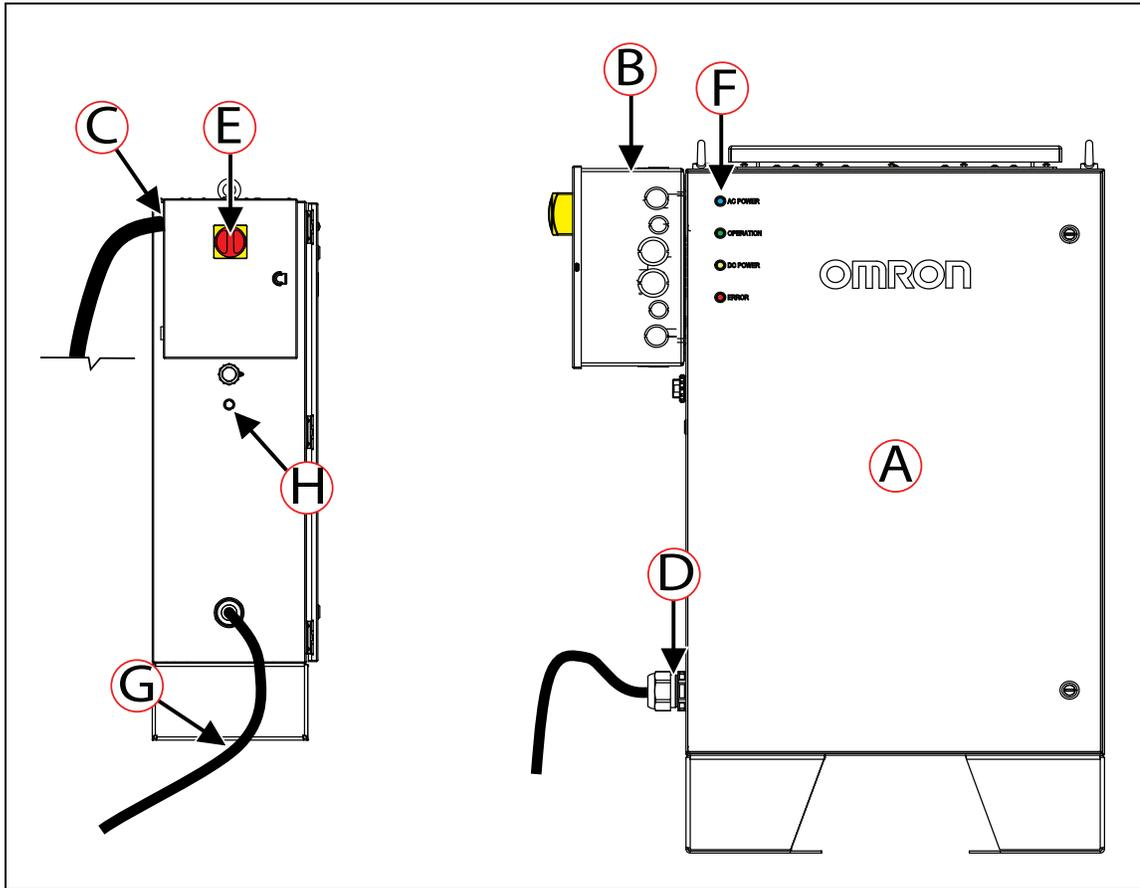

Figure 3-67. Power Supply Box - Features and Parts
- The facility power cable ((C) in Figure 3-67. must be secured to the Figure 3-67.
There are four LED indicators on the power supply box, as displayed in Figure 3-67. For information on the power supply box LED indicators, see: Indicators, Controls, and Connections on page 189.
The power supply box can be mounted directly to the floor, or to the wall using user-supplied screws. For dimensions of the available mounting holes, refer to Figure 3-67. OMRON recommends using screws that are suitable for the substrate (wood, concrete, etc.).
The power supply box is a permanently connected equipment, and therefore, the user must supply the power cord transferring power from the facility into to the electrician access box. The user must punch a hole through the back of the electrician access box (location (C) in Figure 3-67.), and install the user-supplied strain relief for the power cord. The strain relief attaching to the electrician access box is a user-supplied part, and shall be sized appropriately for the user-supplied power cord.
As displayed in Figure 3-67. the main disconnect switch is located on the electrician access box, and controls electrical current flow into the power supply box. When the switch is in the horizontal position, it is off and when it is in the vertical position it is on. See: Figure 7-10. The power supply box input electrical power is protected by a 25 A branch rated circuit breaker.